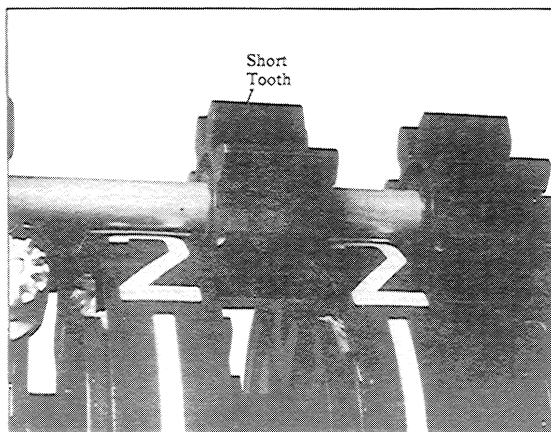

Figure 25. Pinion Positioning.
- Place pinions, with short finger up, in between each wheel as shown in Figure 25.